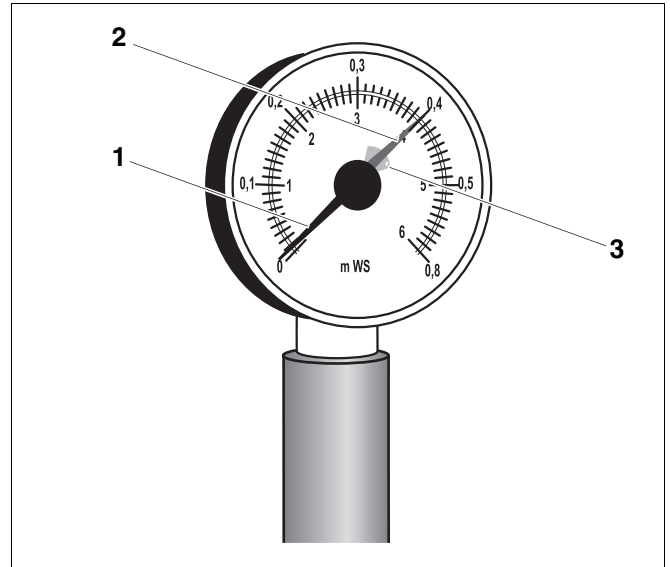

Fig. 4 Pressure gauge for **open systems**
On open systems (if fitted) the pressure gauge needle (Fig. 4, **item 1**) must be within the red range (Fig. 4, **item 3**).